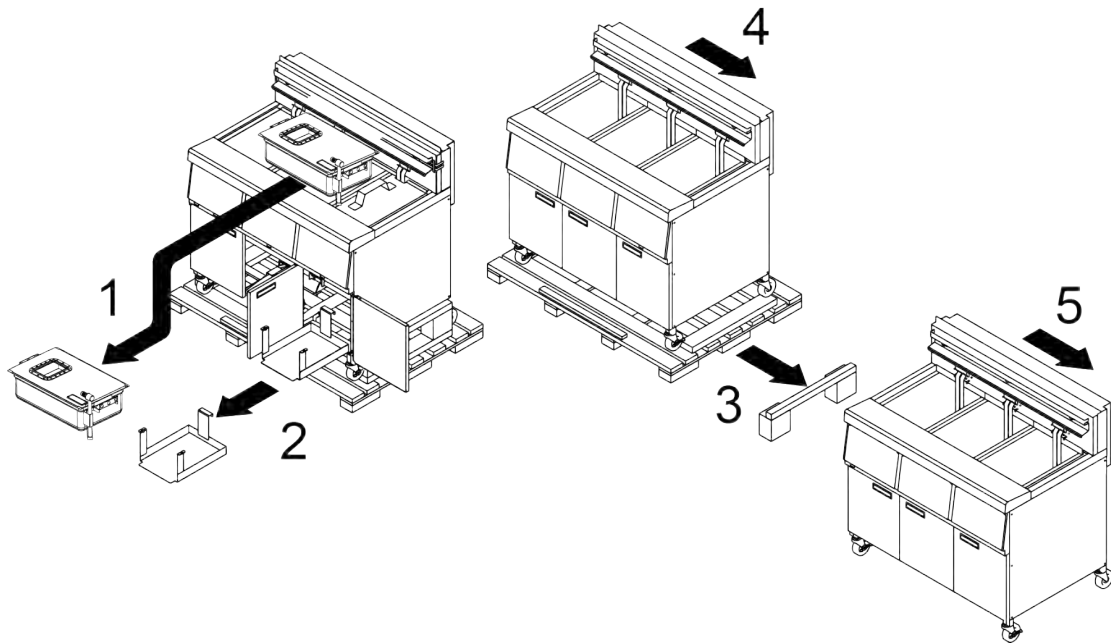

Figure 2-1 Unpacking
- 3) Remove drain pan from the top of the fryer (1), see Figure 2-1 Unpacking, page 6.
- 4) Remove the JIB shelf from the fryer (2).
- 5) With the fryer slightly raised, remove wood blocking support (3).